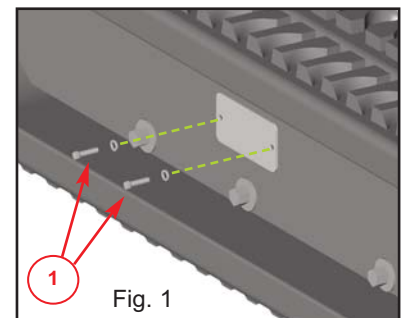

Fig. 1
2. Remove the screws and take off the cover that gives access to the adjustment system (Fig. 1, page 26).